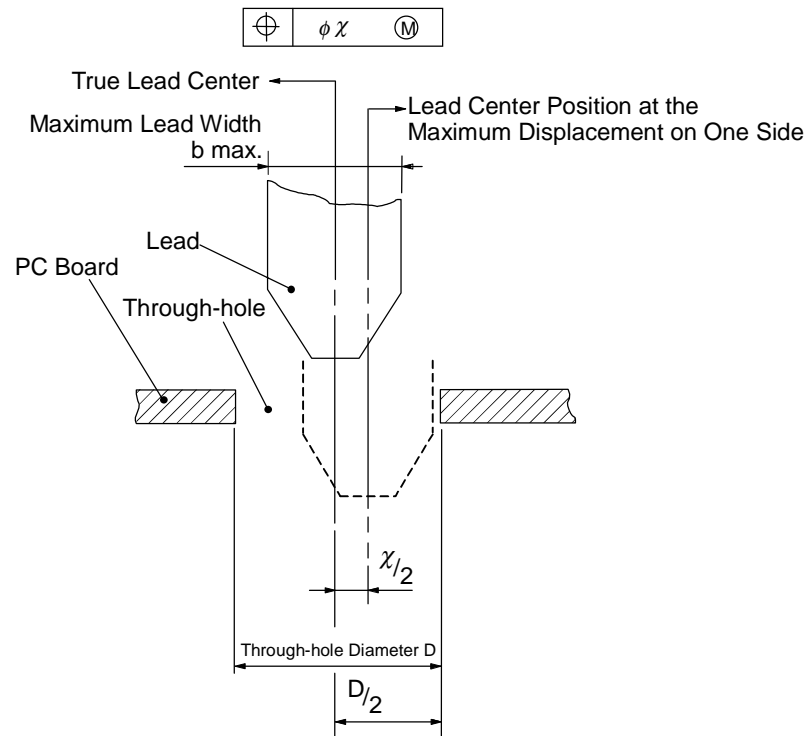

Figure 2.1.1 Allowable Lead Position of Through-hole Mounting Type Package
1) Through-hole mounting type (See Figure 2.1.1)